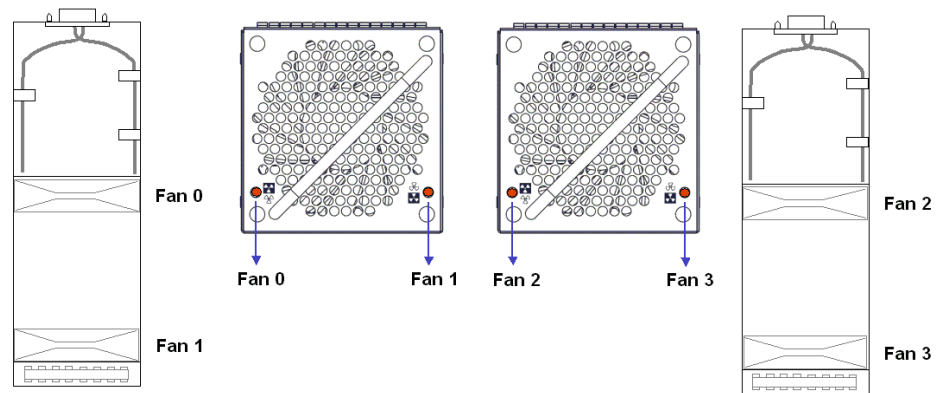

Figure 3-7: Cooling Fan Module LEDs and Cooling Fan Locations
Each cooling module has two (2) red LEDs. Each LED corresponds to a single cooling fan within the module. (See *Figure 3-7*)